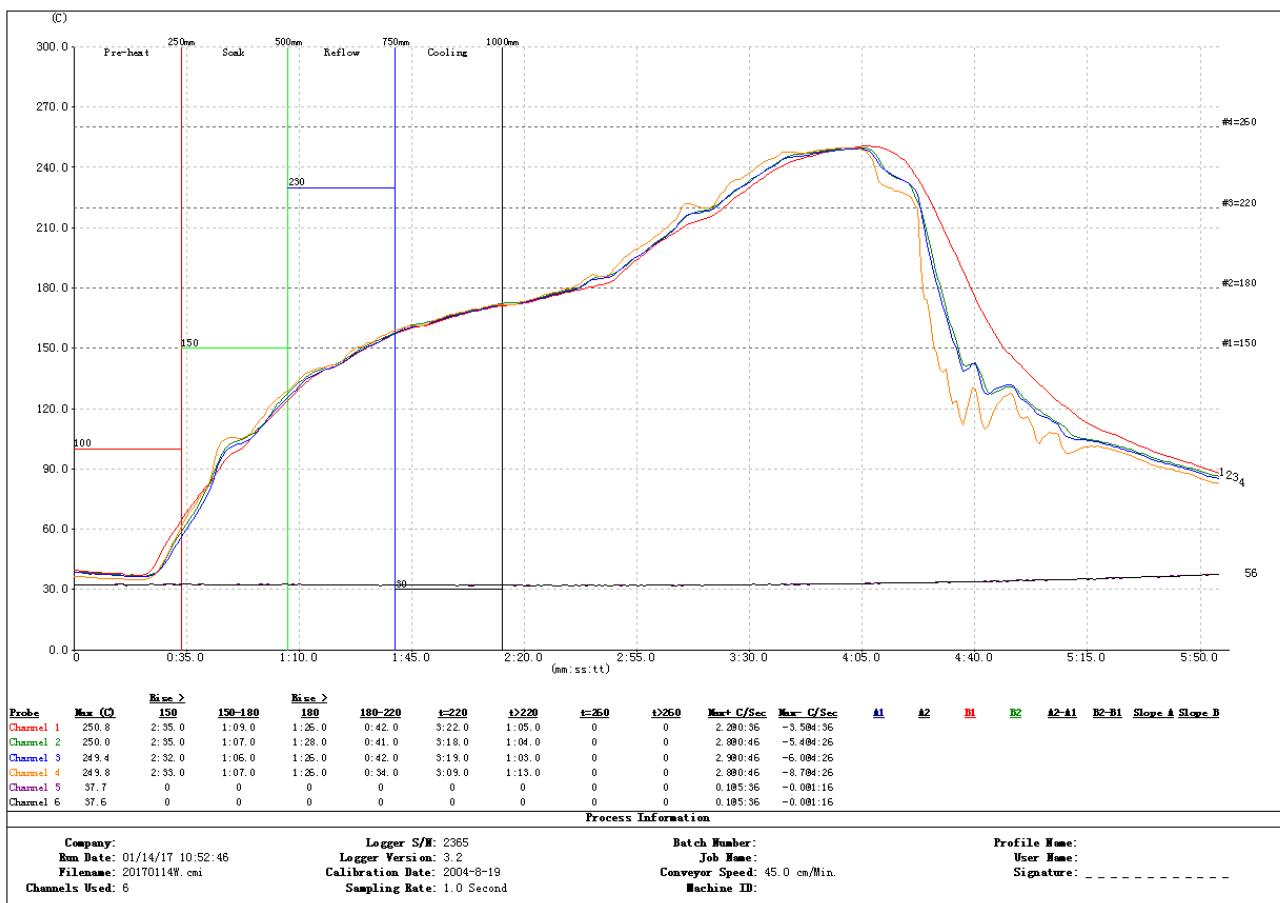

Figure 10 Temperature Curve of Secondary Reflow
- SMT patch should on the basis of reflow profile diagram, maximum temperature  $245^{\circ}\text{C}$ , reflow profile diagram is shown in figure 10;